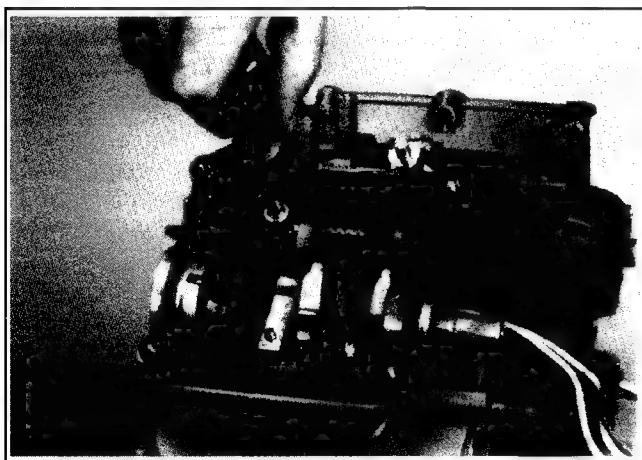

Figure 11-30. Installing Rocker Arm Assembly on #1 Side.
1. Lubricate the rocker arm shaft. Install rocker arm assembly into position in chamber on the #1 side. Torque screws to **4.0 N·m (35 in. lbs.)**. See Figure 11-30.